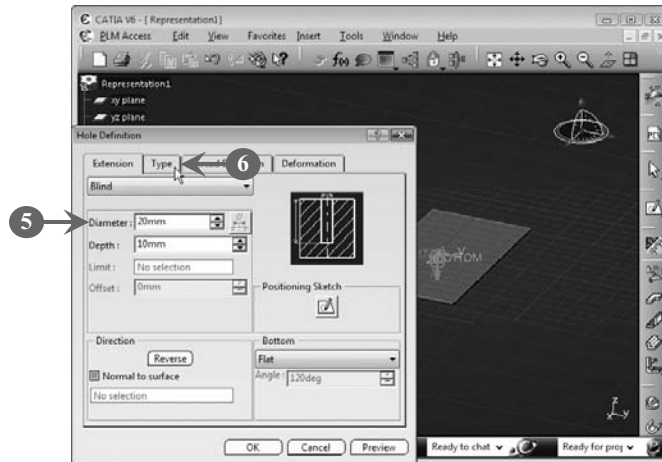

FIGURE 6.86
The **Hole Definition** dialog box opens (**Figure 6.86**).
5. Enter a value for the diameter of the hole in the **Diameter** box. In our case, we have entered **20 mm** (Figure 6.86).
6. Select the **Type** tab to open the **Type** page, as shown in Figure 6.86: